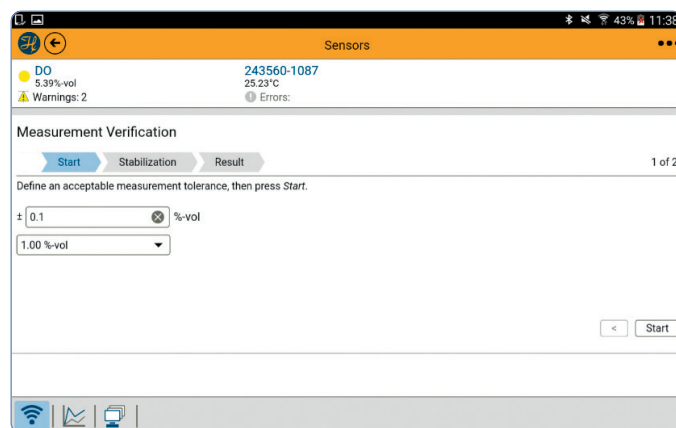

Figure 16: ArcAir Verification Wizard
- 1) Install the sensor into the calibration station and connected the 1%-vol calibration gas (Figure 16)